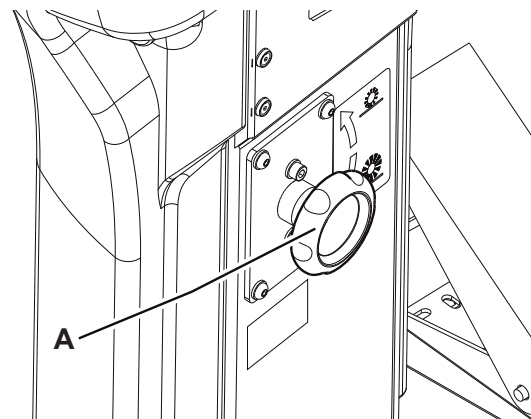

Figure 4
2. Turn the knob (A, Fig. 4) as shown below:
- To decrease the print width, lift the broom with the lever (73) and turn the knob clockwise.